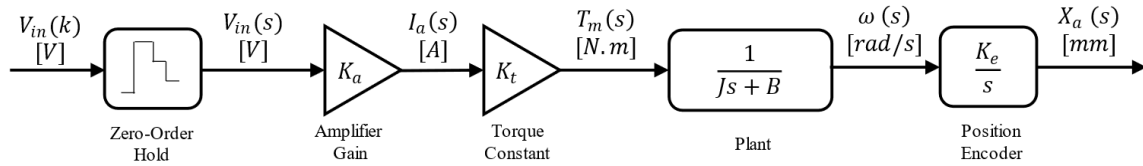

Fig. 1. Open-loop block diagram of ball screw feed drive table
The open-loop block diagram of a ball screw feed drive system is given in Fig. 1. Using a Sampling Frequency of 1000 [Hz], an Amplifier Gain (K_a) of 0.887 [A/V], a Torque Constant (K_t) of 0.72 [Nm/A], an Equivalent Moment of Inertia (J) of 7×10^{-4} [kgm²], a Viscous Damping Coefficient (B) of 0.006 [Nm/rad/s], and an Encoder Gain (K_e) of 3.18 [mm/rad], solve the following questions.